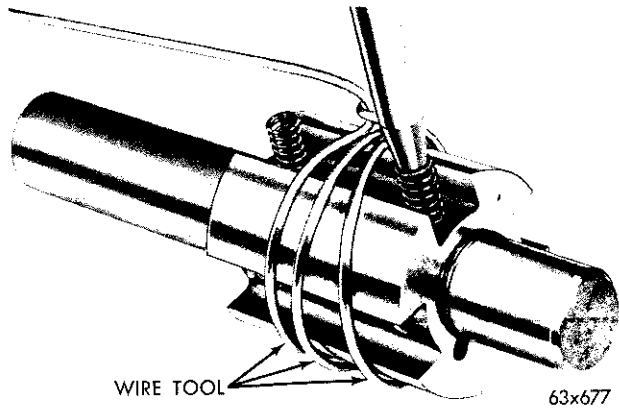

Fig. 15—Installing Slipper Springs
(12) Use an ordinary wood pencil with the point broken to install the new springs. Enter the blunt tapered end of the pencil in the spring and snap the springs into the pockets in the rotor by turning the pencil clockwise (Fig. 15). Install the springs and slippers in one rotor slot at a time. Remove the pencil from the spring with a counter-clockwise rotation. Either end of the spring may be inserted into the rotor pocket.